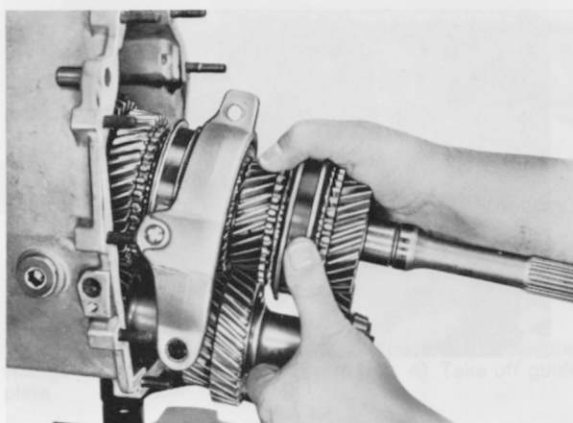

Fig. 16
3. Take gearbox shaft from the housing (Fig. 16). Pull the 2 detent plungers and the 2 compression springs (616) from the bore.